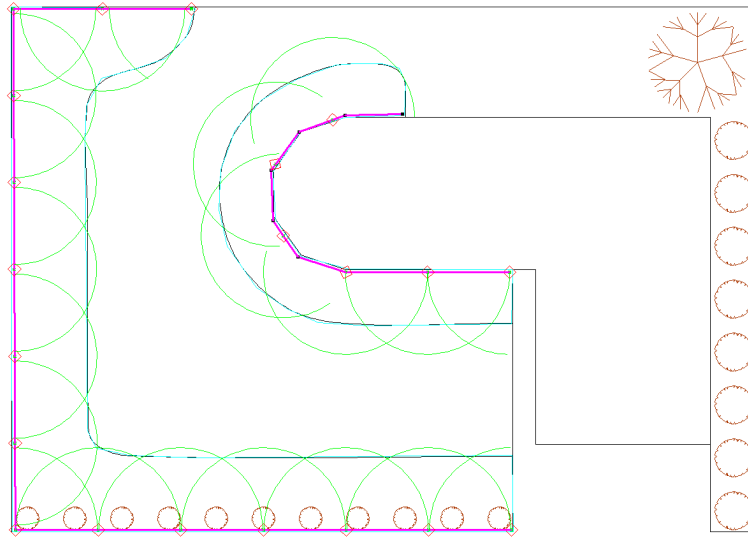

Figure 4-70
27. Place a sprayline around the conservatory garden starting next to the path along the garage, placing the sprayline next to the house, again, just inside the area. Several of the wetted radius arcs of the sprinklers in the conservatory garden do not touch the area. Although this is physically correct since the sprinklers cannot spray water around corners we will change the arcs to make the drawing look better. This is purely cosmetic. Using *Modify/Change* click on an arc that needs changing. Arcs are measured anti-clockwise from the horizontal (0°) so if the start of the arc needs adjusting edit the “Start Angle” field. If the end of the arc needs adjusting edit the “Included Angle” field. Click [OK]. You may need to do this several times to get the arc positioned correctly. Repeat for any other arcs that need adjusting. Your design should look something like Figure 4-70.